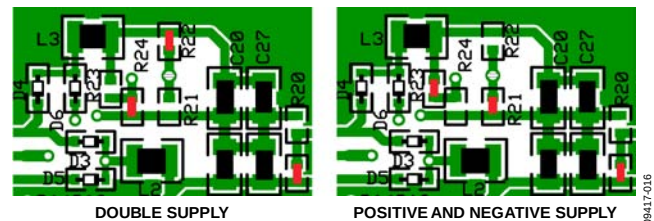

Figure 16. Double Supply Configuration with 0 Ω Resistors (Red)
–15 V supply. Short-circuiting R21 instead of R22 connects the transformer center tap to the ground plane instead of the node where L3, C20, and C27 are connected. Figure 16 shows which resistors should be short-circuited and open-circuited for the double supply or positive and negative supply configurations. Note that the negative supply is unregulated. The positive and negative supply can be set for ± 12 V instead of ± 15 V by short-circuiting R25.